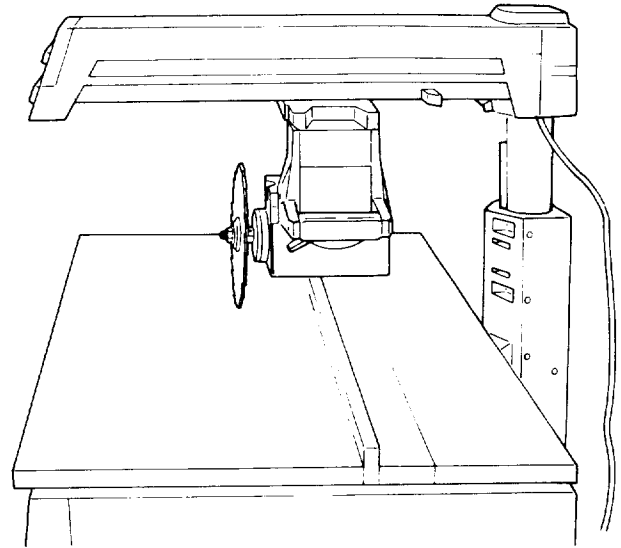

Fig. 92 - Out-Rip Position
1. Unlock the *swivel lock* and turn the *motor* to the out-rip position with the *motor* between the *blade* and *fence*. (Figure 92)